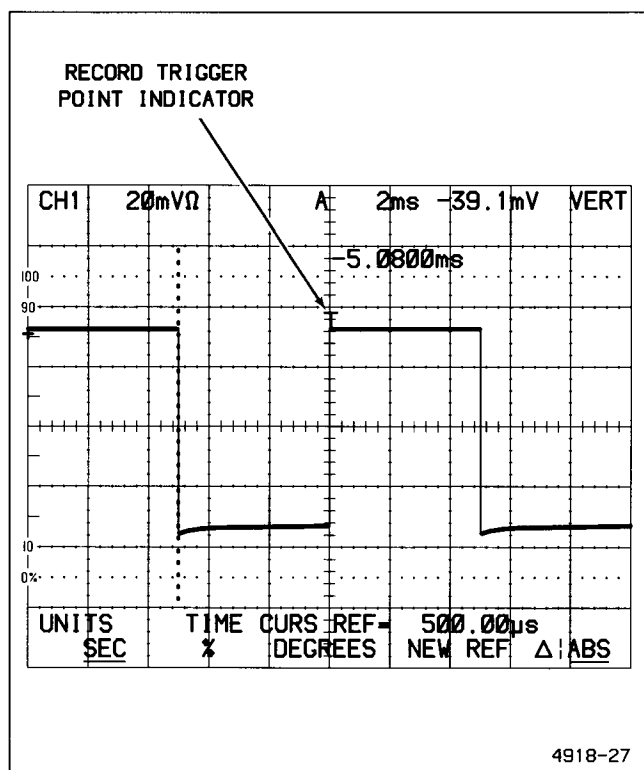

Figure 6-13. Time measurement of an event relative to when the record trigger occurred.
4. Read the time difference between the cursor-aligned point and the Record Trigger point directly from the cursor readout (see Figure 6-13).